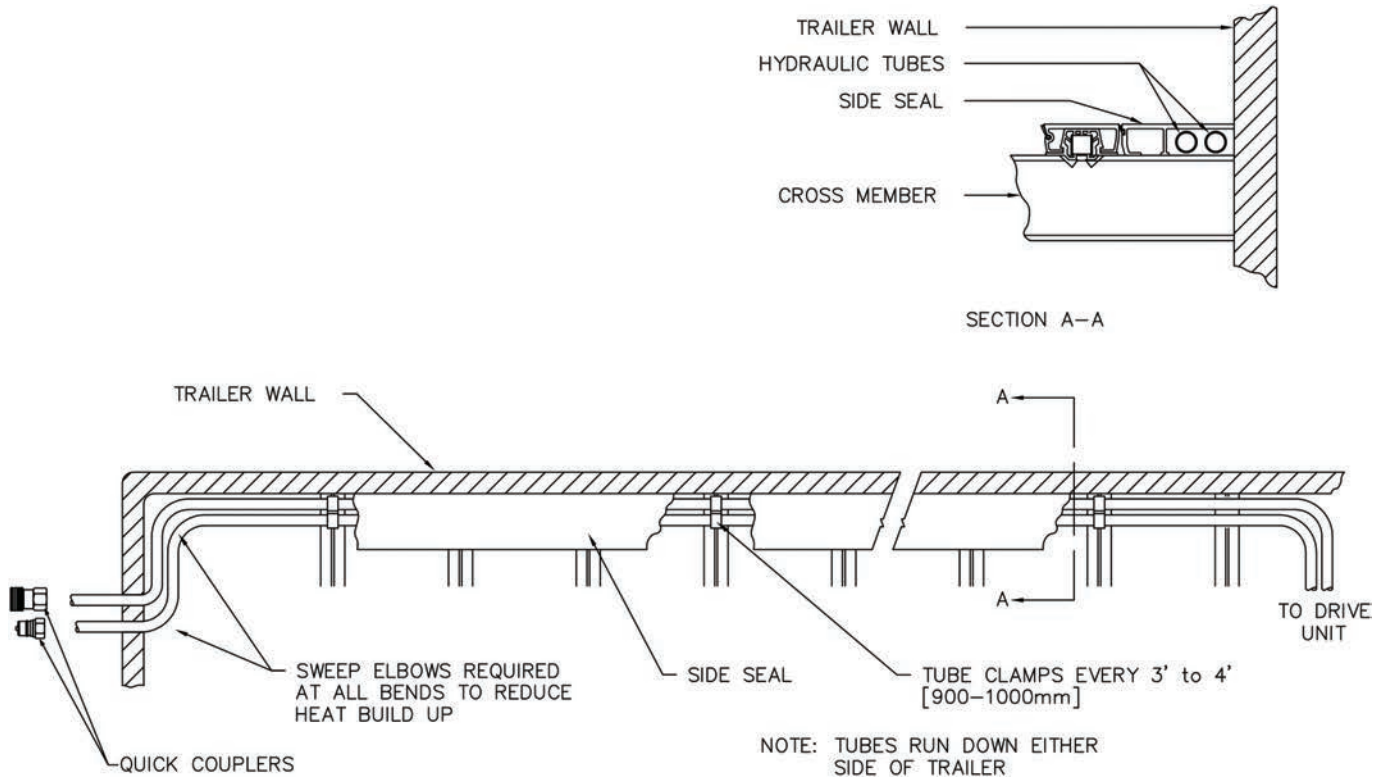

Figure 3
- 2) Routing the tubes under the side seal (Figure 3). Check the available space underneath the side seal. Both tubes may be on one side or one tube may occupy each side of the trailer. Tubes are clamped to cross-members or placed inside PVC pipe to prevent rubbing. The side seal should be detachable for maintenance.